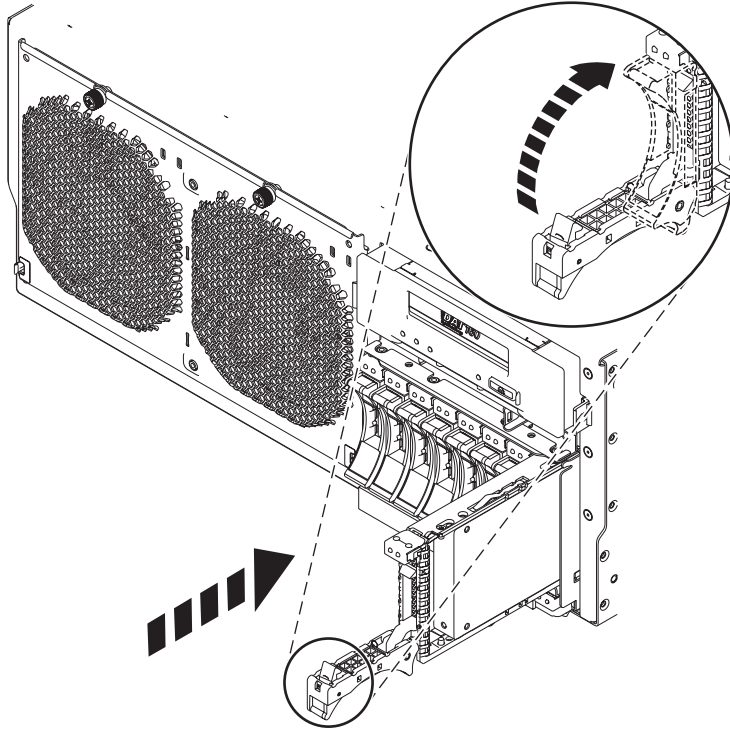

Figure 42. Replacing a disk drive in the system
7. When the identify LED turns on solid, slide the disk drive or solid-state drive all the way into the system or an expansion unit, and push the drive handle **(A)** in until it locks, as shown in Figure 42 on page 65.